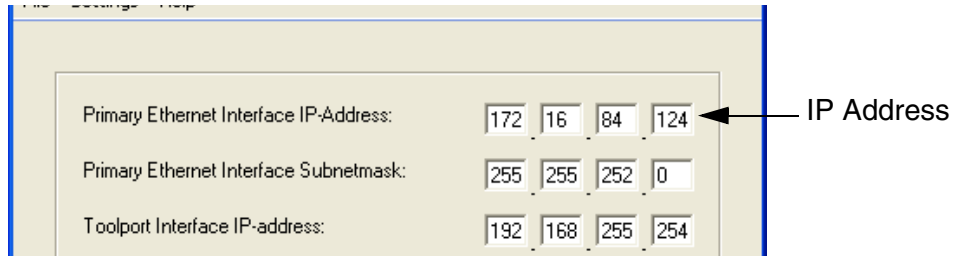

Figure 60. IP Config window for setting unique IP address
4. Enter a unique IP address (obtainable from the Control Network Administrator). Example: 172.16.84.124, see Figure 60.